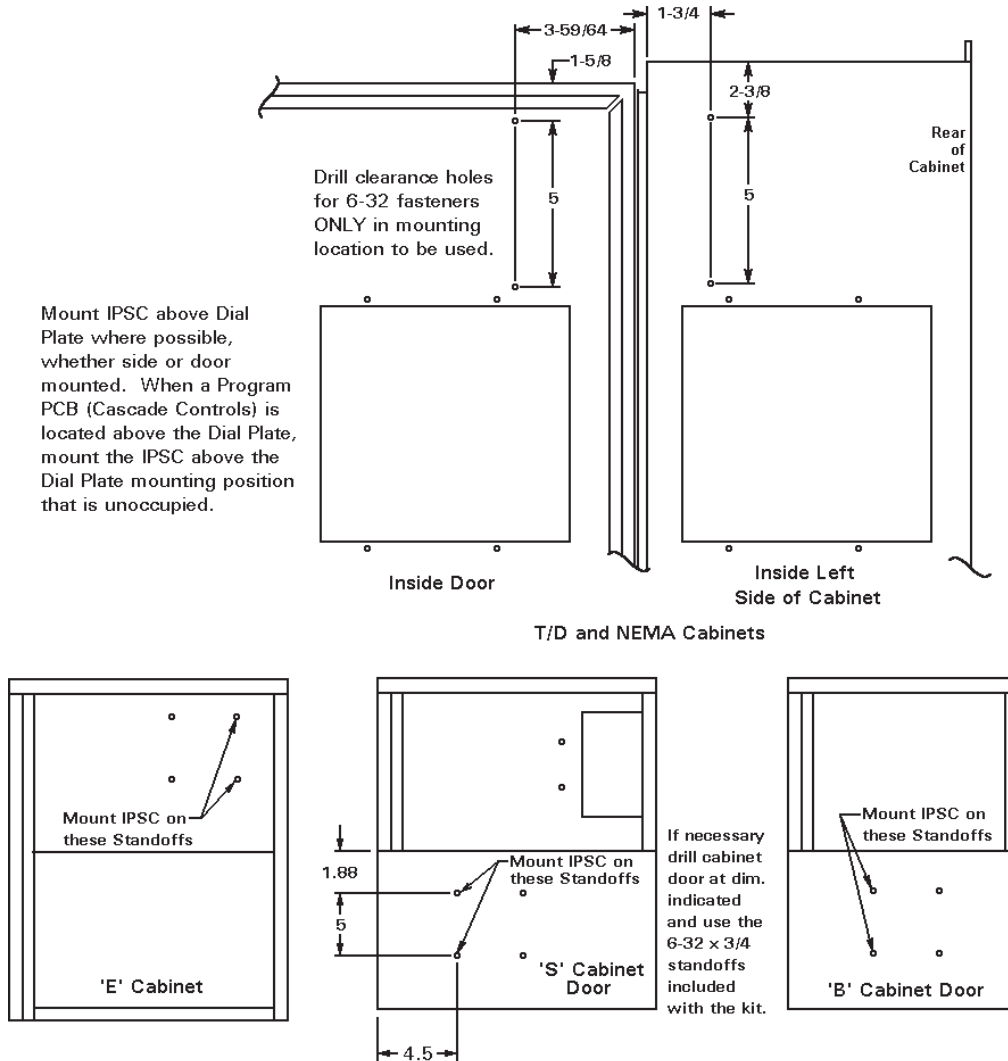

Figure 9-1. IPSC mounting diagrams
3. In “B”, “S”, and “E” Cabinets, mount Integrated Pressure Option Board on the existing standoffs indicated in Figure 9-1, using the 6-32 screws included with the kit.